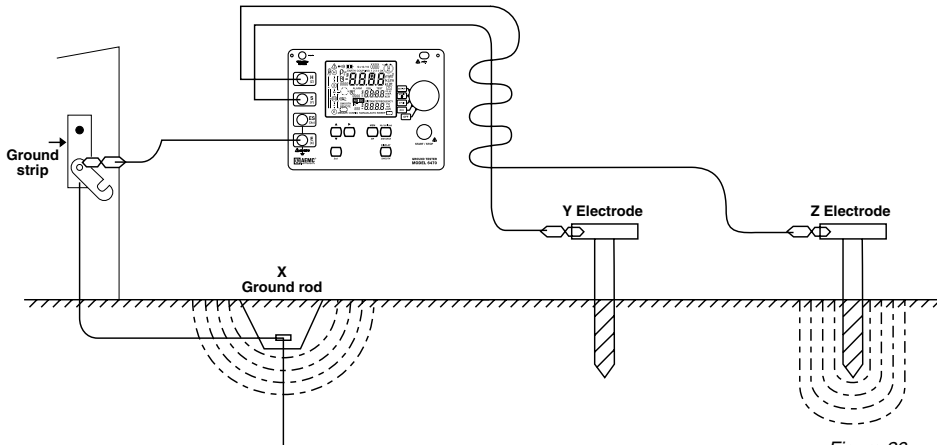

Figure 26
A) Braid the auxiliary cables together. This often has the effect of canceling out the common mode voltages between these two conductors. (Figure 26)